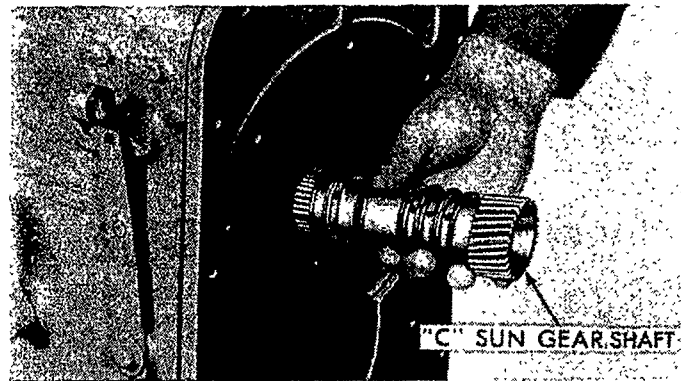

Figure 46
7. Remove the "C" sun gear as shown in Figure 46.
23. Install the six shaft seals on the "C" sun gear. Use Vaseline to center the seals. Insert the gear into the distributor so the splines align with the clutch 1 housing splines. See Figure 46. Install the thrust washer on the distributor rear journal.